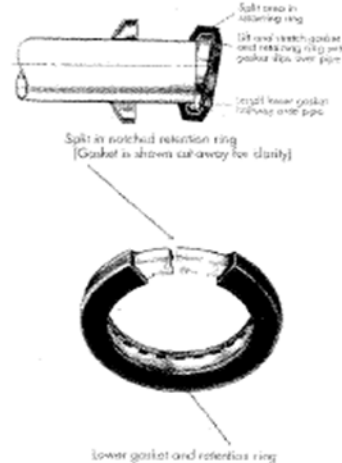

Figure 3
- b) Self-restrained gasket installation. To simplify installation of a self-restrained gasket, install lower gasket halfway onto the pipe first, leaving the split area in the steel retaining ring free at the top. See Figure 3. Then, stretch the gasket and split area of the retaining ring until they slip over the tube or pipe and into position. Refer to Figure 3.